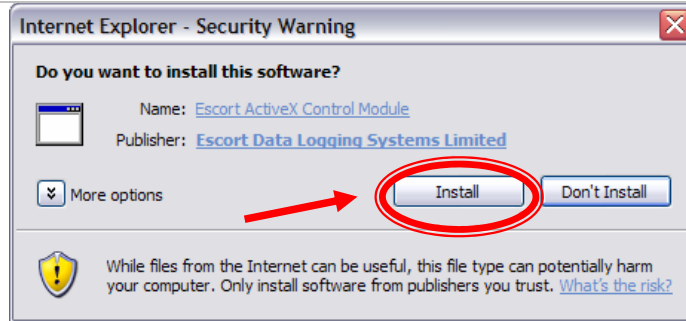

Figure 9: Active X Control
- As soon as you begin to program, the Internet Explorer message will appear on screen if you wish to install the Active X. **Select Install** (See Figure 9 above) and the component will be installed on your local computer.